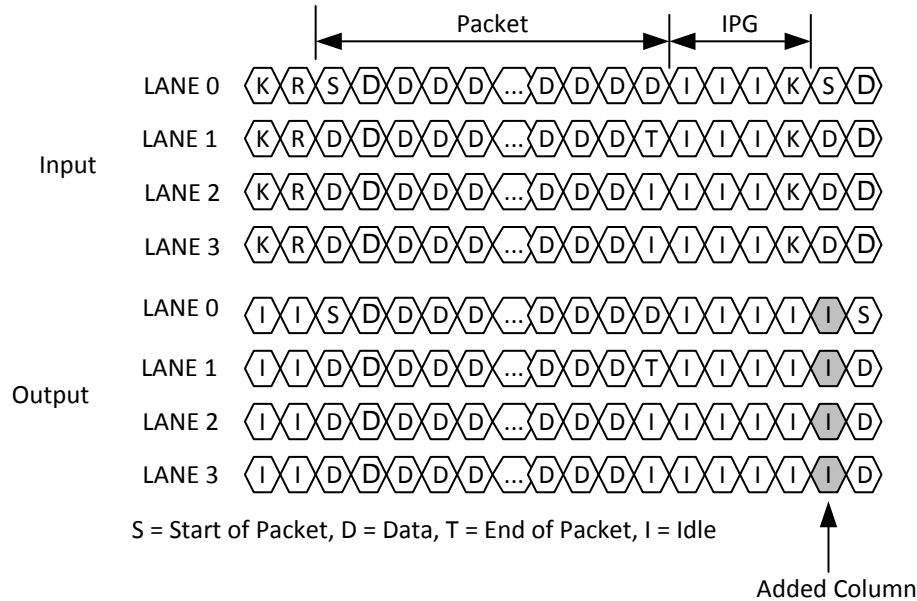
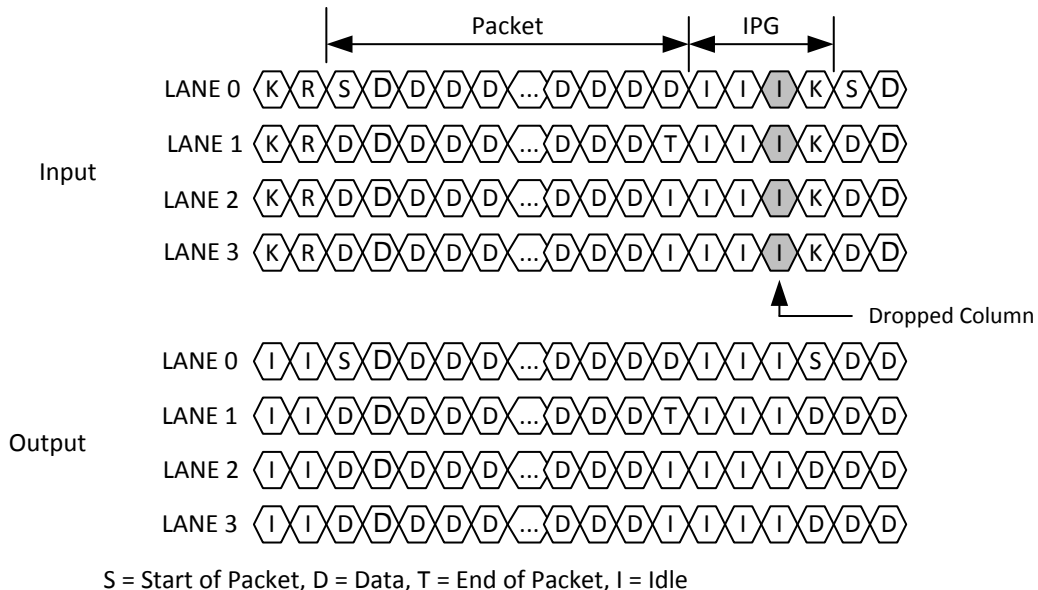

Figure 3-3. Clock Tolerance Compensation: Add
Figure 3-4. Clock Tolerance Compensation: Drop
The XAUI interface is defined to allow for separate clock domains on each side of the link. Though the reference clocks for two devices on a XAUI link have the same specified frequencies, there can be slight differences that, if not compensated for, will lead to over or under run of the FIFO's on the receive/transmit data path. The TLK10232 provides compensation for these differences in clock frequencies via the insertion or the removal of idle (I) characters on all lanes, as shown in Figure 3-3 and Figure 3-4.